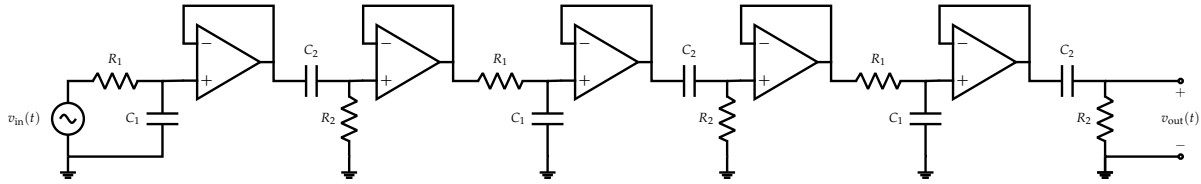

Figure 1: “Time-domain” circuit: Cascade of the three bandpass filters, using buffers to avoid loading.
- (i) Suppose that the bandpass filter does not have enough suppression at 60 Hz and 60 kHz. You decide to use a cascade of three bandpass filters (with unity-gain buffers in between) (as shown in Figures 1 and 2). **What are the phasors for each of the frequency tones after all three bandpass filters?**